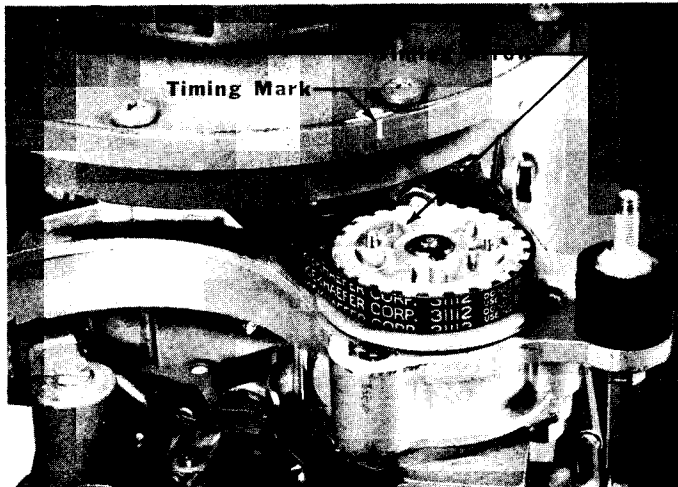

Figure 1. Flywheel and Magneto Pulley Timing
2. Rotate flywheel until timing mark (straight line stamped on rim) is in a straight line with center of crankshaft and distributor pulley center. (Figure 1)